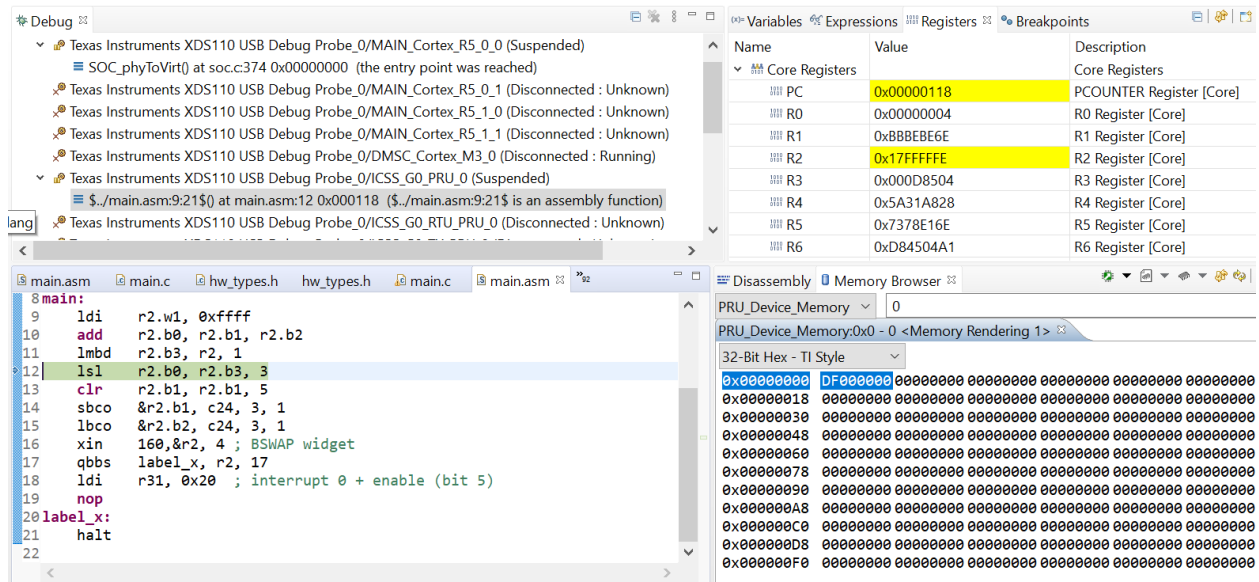
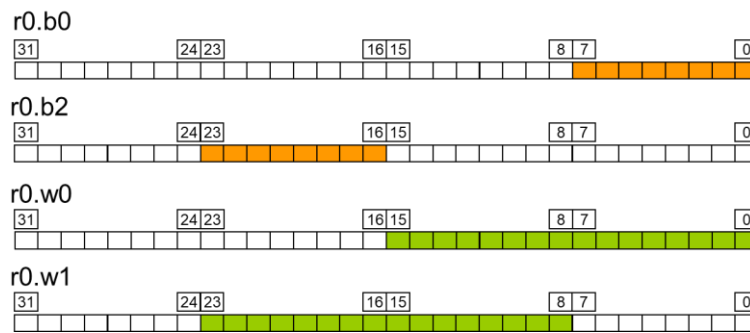

Figure 12 – CCS source level debug
Figure 13 – Addressing for PRU Register
Figure 12 shows CCS windows for assembler source level debug. The register view has all PRU registers and Program Counter (PC). Figure 13 shows different addressing modes and figure 14 lists all PRU instructions.